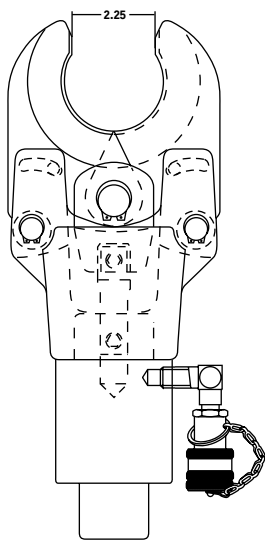

Figure 1
3. Turn the 746 clockwise until the jaw opening measures 1.96 inches. See Figure 1.
4. Tighten the set screw (30).
8. Insert the shaft (13) into the yoke (2). Turn the shaft clockwise until it is flush with the radius in the yoke.
9. Place a few drops of grade CV Loctite onto the set screw (9) and tighten the set screw.
10. Insert the yoke pin (4) into the yoke (1).
11. Insert the two pins (10) into the body.
13. Turn the 746 clockwise until the jaw opening measures 1.96 inches. See Figure 1.
14. Tighten the set screw (30).